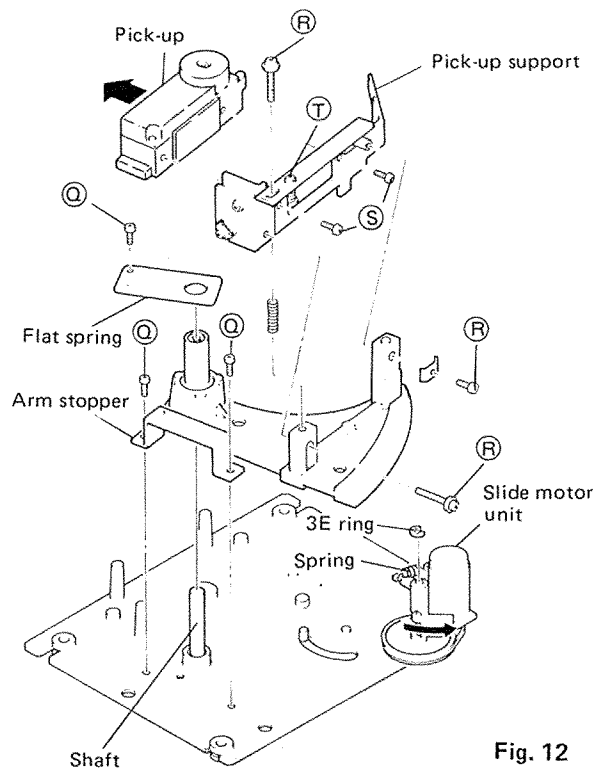

Fig. 12
6. Dismounting of PICK-UP and SLIDE MOTOR UNIT. (Fig. 12)